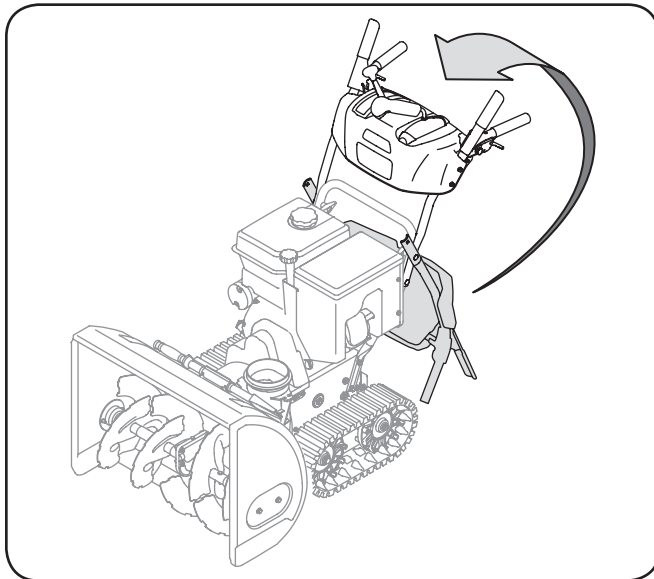

Figure 3-1
2. Remove the lower plastic wing nut and carriage bolt from each side of the upper handle; then raise the upper handle assembly until it snaps over the lower handle. See Figure 3-1.